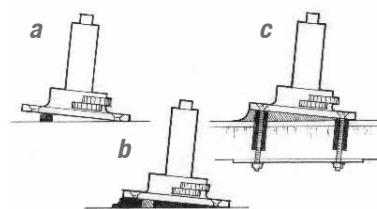

Figure 19 Support the base in position with blocking. Fill the void with thickened epoxy.
2. Bond small blocks to the substrate to support the base at the desired height and position (e.g., winch base, Figure 19-a).
4. Place the hardware in position, resting on the blocks (Figure 19-b) and install the fasteners.
5. Smooth the excess epoxy into the desired fillet shape around the base (Figure 19-c). Allow the epoxy to cure fully before loading. Protect exposed epoxy from UV.